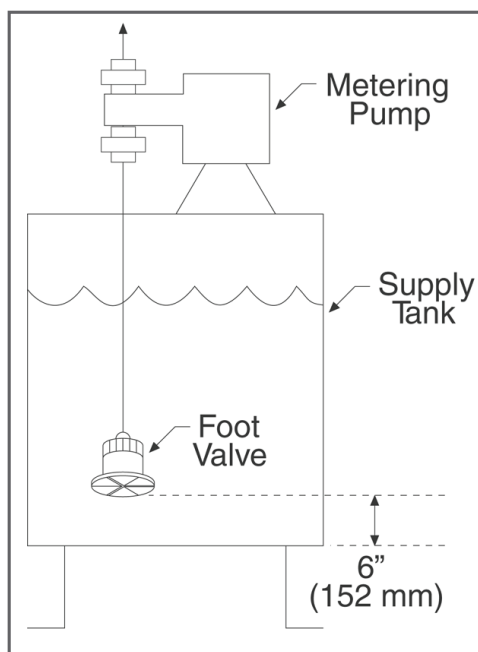

Figure 5. Suction Lift Installation
- MacRoy® G pumps are designed to operate with process liquid supplied at or above atmospheric pressure. Although these pumps can move liquids supplied at less than atmospheric pressure, in these negative pressure applications it is important that all connections be absolutely drip free and vacuum tight, and that a foot valve be installed at the bottom of the suction line (see Figure 5).